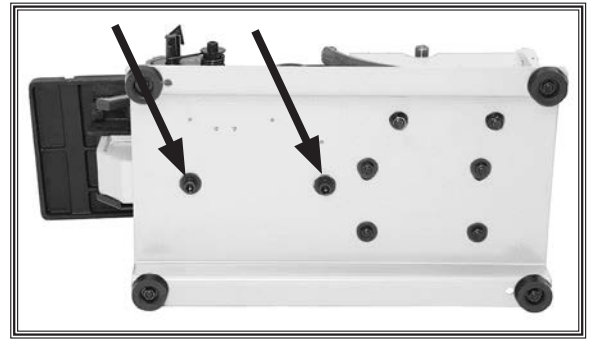

Figure 34. Cap screws for belt housing.
3. Gently lay sander on its back. Loosen (but do not remove) two cap screws securing belt housing assembly shown in **Figure 34**.